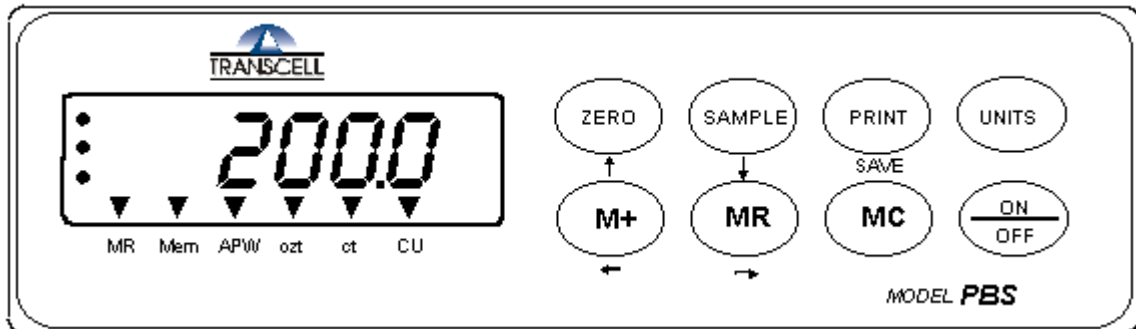
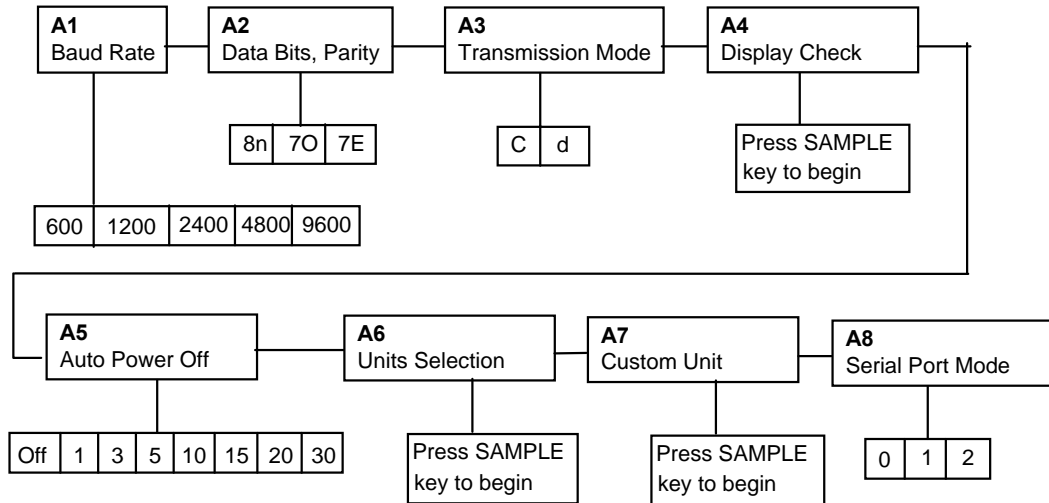

Figure 5-1: User Menu Key Assignments
Figure 5-2: User Menu Chart
Use the directional keys shown in Figure 5-1 to move around in the User Menu Chart shown in Figure 5-2 on the following page.
3. Use the left or right directional keys (shown in Figure 5-1 above) to move the decimal point position to the correct position. Pressing the ZERO key or the SAMPLE key will change the position of the decimal point.
6. Use the four directional keys (shown in Figure 5-1 above) to adjust the displayed value to the actual custom unit multiplier value. Increase the flashing digit by pressing the PRINT key. Decrease the flashing digit by pressing the MR key. Pressing the ZERO key or the SAMPLE key will change the position of the flashing digit.